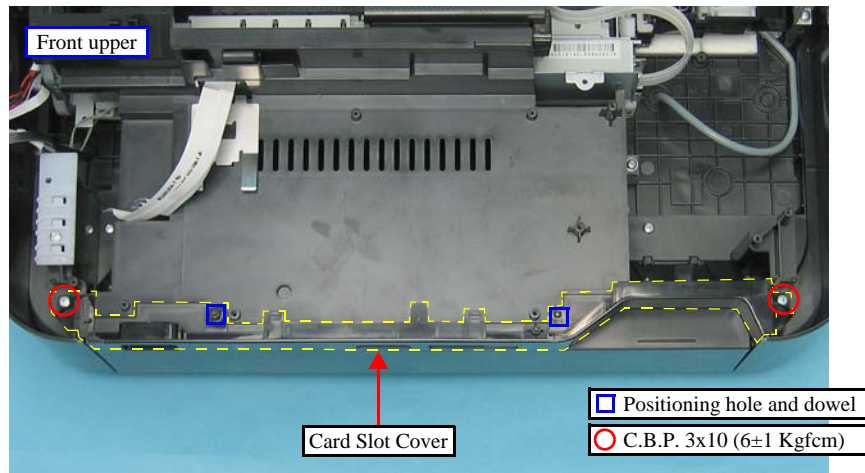

Figure 4-31. Removing the Card Slot Cover
- When installing the Card Slot Cover, align the positioning holes of the Card Slot Cover with the dowels of the Middle Housing. (See Figure 4-31.)